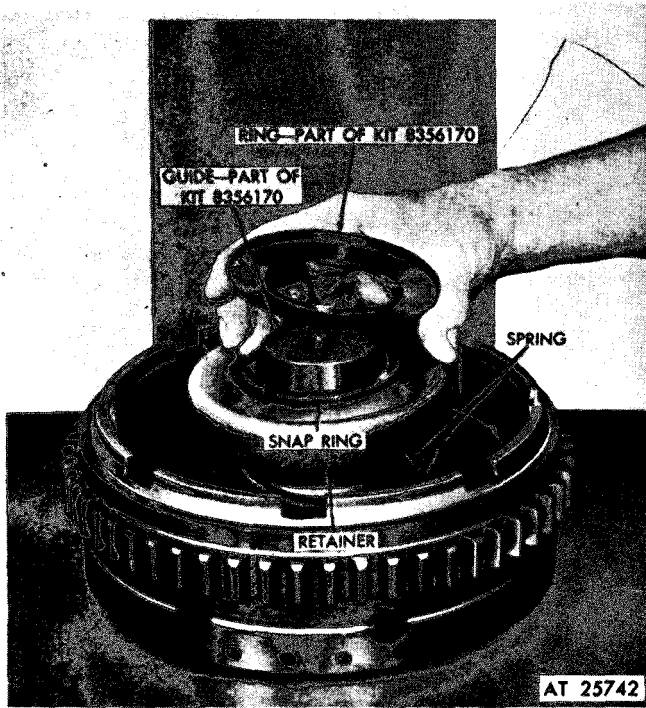

Figure 5-70. Positioning snap ring and replacer components on high-range clutch assembly using ring and guide (part of kit 5180-572-8607 (8356170)).
(4) Install high-range clutch piston assembly (27) into housing (22). Make certain that piston engages three drive pins in housing.
(5) Install inner and outer return springs (28 and 29) and retainer (30) in housing (fig. 5-70).
(6) Position guide, part of kit 5180-572-8607, on housing hub. Position snap ring over guide, and ring, part of kit 5180-572-8607, over snap ring (fig. 5-70).